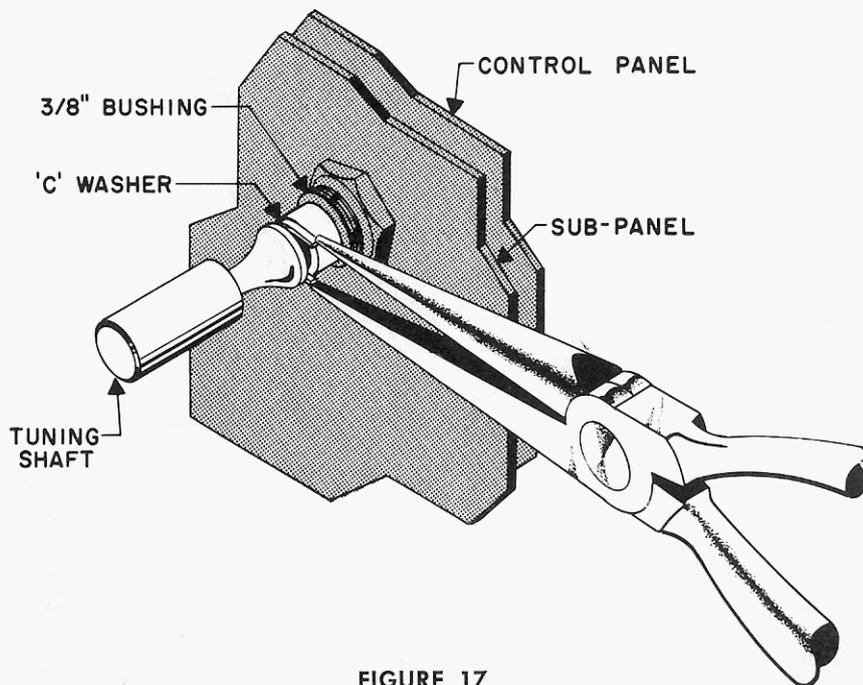

FIGURE 17
- Tuning shaft and two C washers. See Figure 17. Place a C washer in the groove near the center of the shaft. Lock it in place by pinching the ends of the washer with your longnose pliers. From the back of the control panel, insert the shaft through the  $\frac{3}{8}$ " bushing marked BANDSPREAD. Place the second C washer in the remaining groove and lock it in place with your longnose pliers.